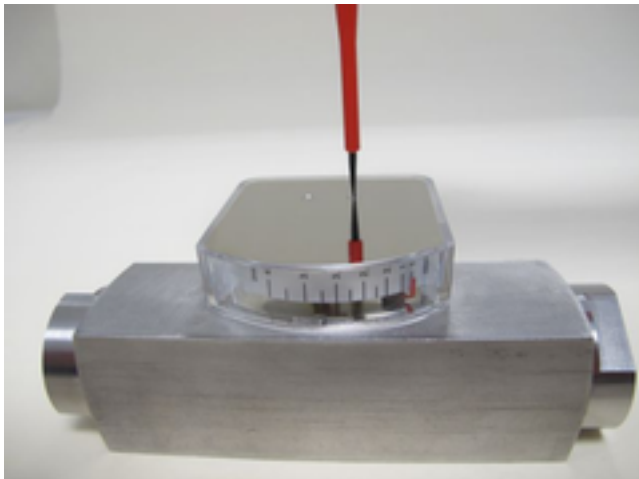

Fig. 77: Tighten the cover plate
27. ▶ Fasten the screws securing the display cover plate, observing the proper tightening torque (*Fig. 77*) (↪ *Chapter 11.1 "Tightening torque of screws" on page 106*).